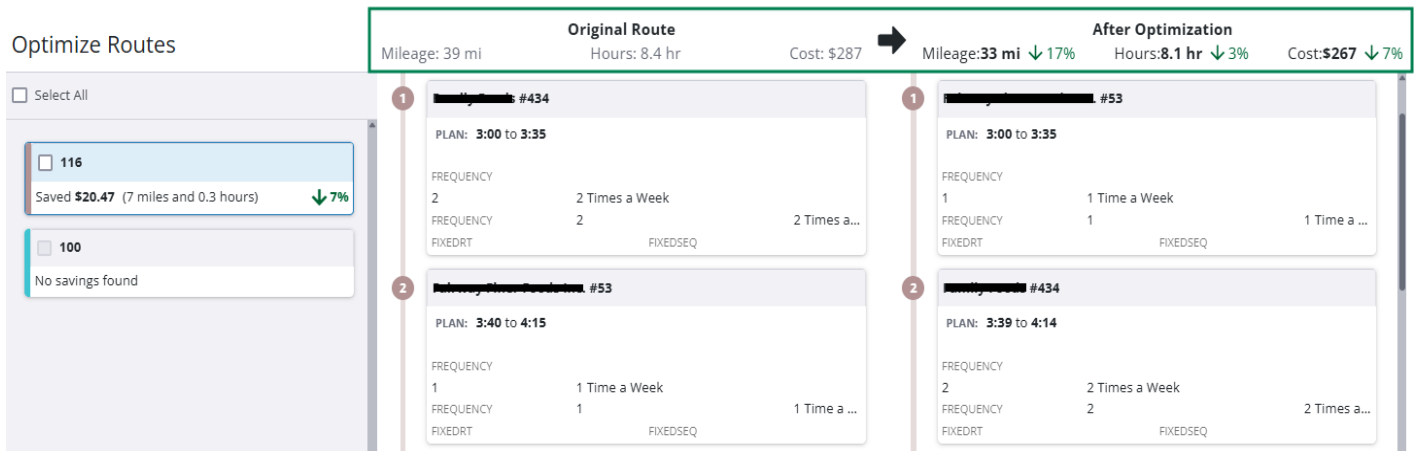

Figure 66 - Example of an Optimized Sequence preview and summary
3. Preview the Routes' optimization options (See *Figure 66* below).